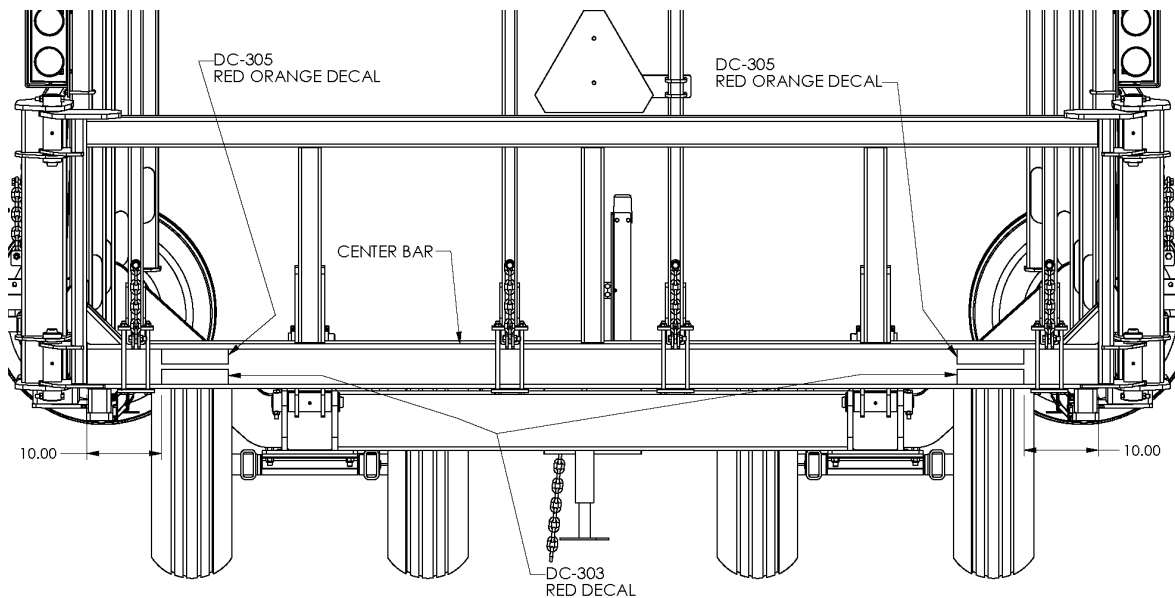

Figure 27
1. Apply the red/orange fluorescent (DC-305) and the red retroreflective (DC-303) decals to the Center Bar as shown in Figure 27.